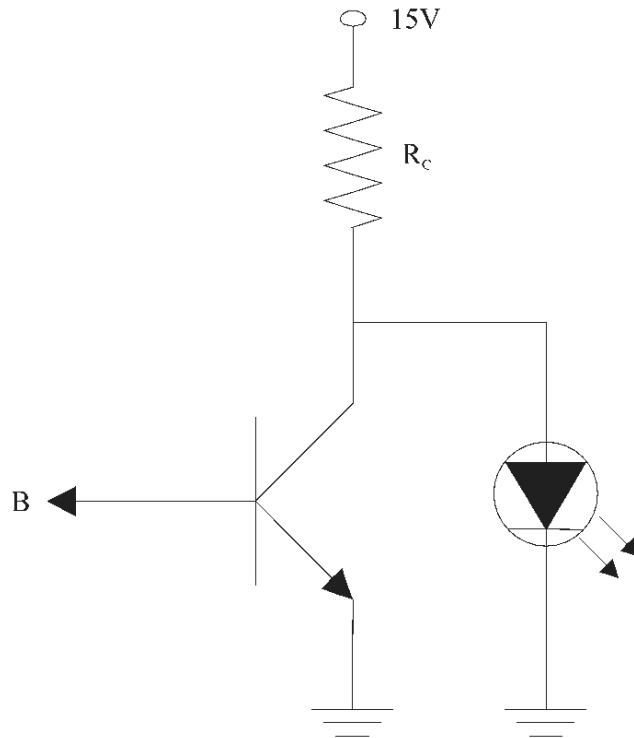

Figure 4-35. Circuit of exercise 4.19.
- 4.19. For the circuit shown in figure 4.35, determine the current-limiting resistor in the collector (ohmic value and power).
- 4.20. It is desired that the LED in the circuit of figure 4.35 remain on. Where should point B be connected?